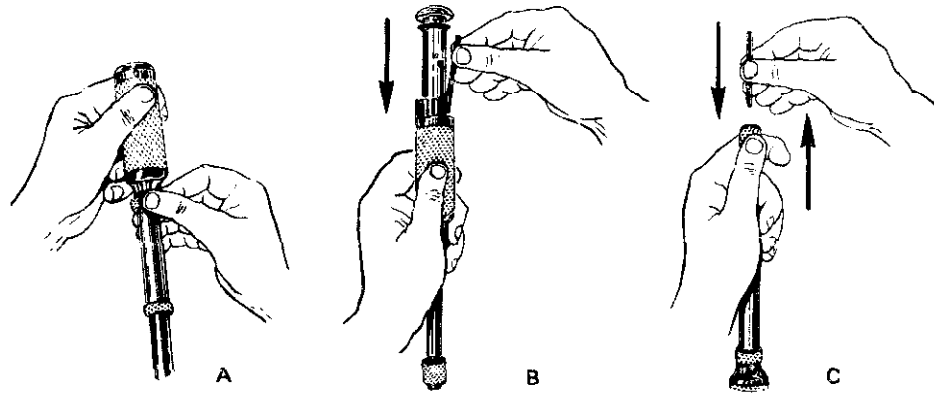

Fig. 10-58 Selecting and inserting drill point.
2. Choose the drill point from the magazine. To open the magazine handle, turn the lock ring to the left, A, figure 10-58. Draw the magazine handle down and turn it to select the desired drill size, B, figure 10-58. After selecting the drill, slide the magazine handle back in place and lock it.
3. Push the chuck sleeve forward. Insert the drill point and turn it until seated. See C, figure 10-58. Release the chuck sleeve. Drilling can now be done.